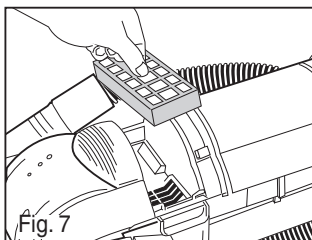

Fig. 7
- 1) Lower handle to floor and remove HEPA filter (Fig 7).